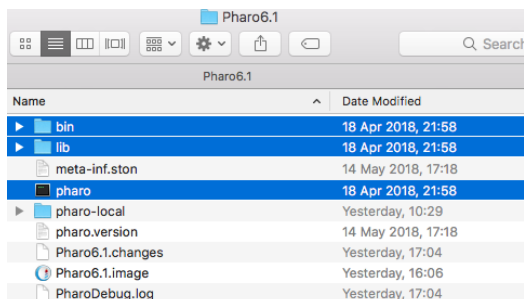

Figure 1-8 Copying PharoARM.
- Copy the files shown in Figure 1-8 to Pharo folder `/Users/your_user_name/Documents/Pharo/pharo_image_folder`